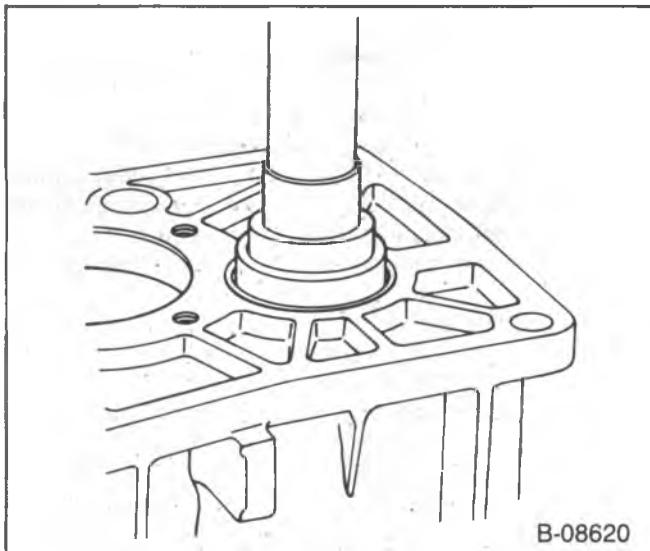
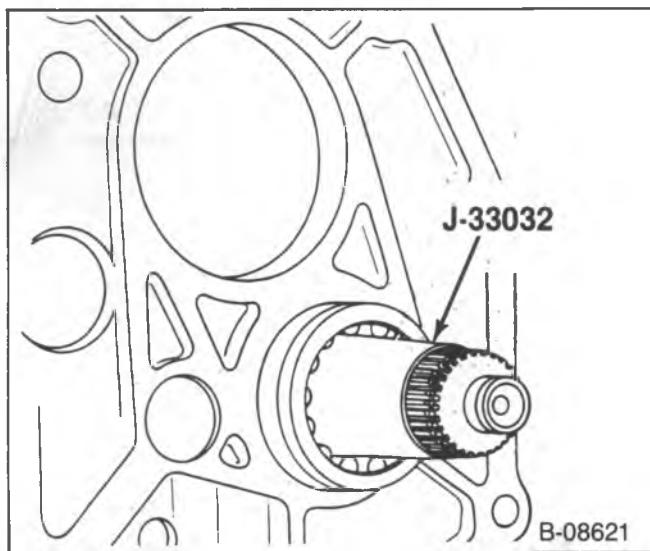

Figure 33—Installing the Countergear Front Bearing
Figure 34—Installing Tool J 33032
1. Countergear front bearing (642) (figure 33).
2. Countergear thrust washer (641).
3. Countergear (604) and the rear bearing spacer (636).
4. Countergear rear bearing (635) (figures 34 and 35).